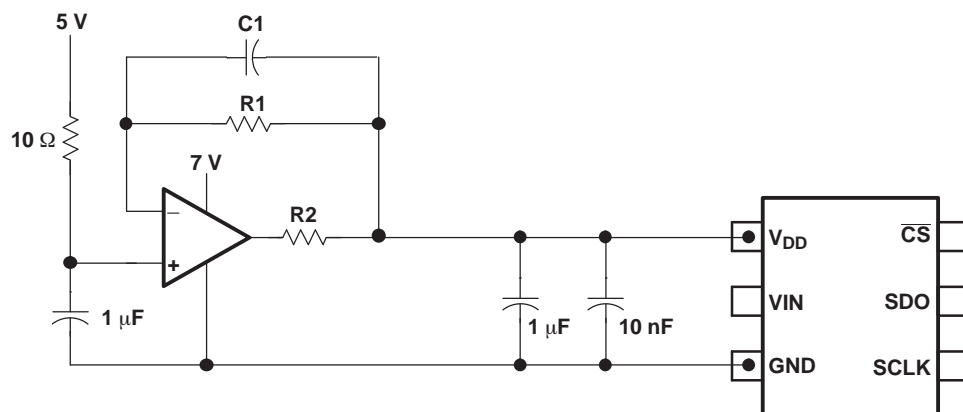

Figure 31. Buffering with the OPA735
- A low-pass filtered system supply followed by a buffer, like the zero-drift OPA735, can also be used in cases where the system power supply is noisy. Care should be taken to ensure that the voltage at the V_{DD} input does not exceed 7 V to avoid damage to the converter. This can be done easily using single supply CMOS amplifiers like the OPA735. Figure 31 shows one possible application circuit.